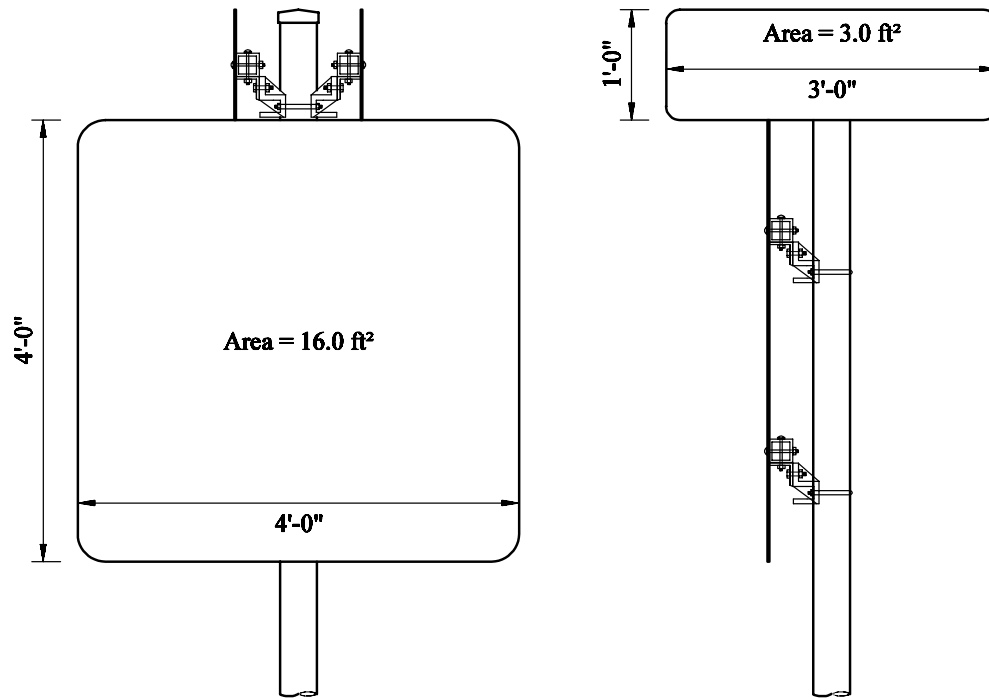

Figure 7 – Design Area Example
37. **Design Area**{ XE "Design Area" \b } : The largest total surface area of the signs viewed from any given side. In Figure 7, the design area would be 16.0 ft² not 19.0 ft². The design area is measured in square feet and by default is calculated automatically from the **Sign Height** and **Sign Width** fields. If the design area is different than what is calculated, enter in the correct value.